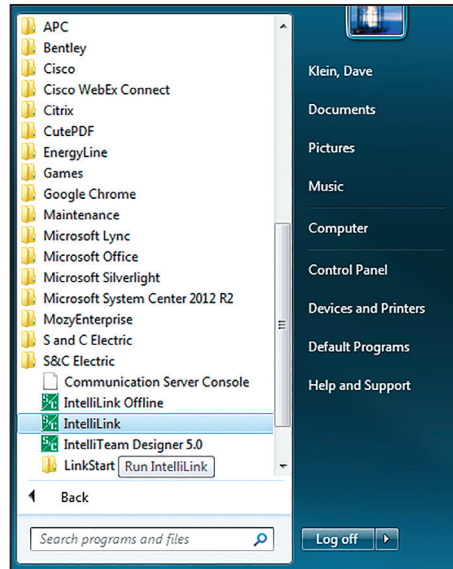

Figure 1. Start button program selection screen.
STEP 3. Select the **IntelliLink** option from the *Start>All Programs>S&C Electric screen*. See Figure 1 on page 8.